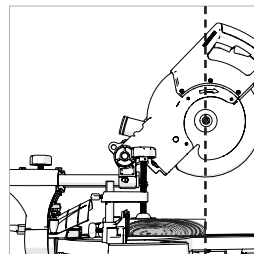

Fig. 27
- Grasp the Handle and pull the Cutting Head forward until the arbor (centre of saw blade) is over the front edge of the workpiece. **(Fig. 27)**